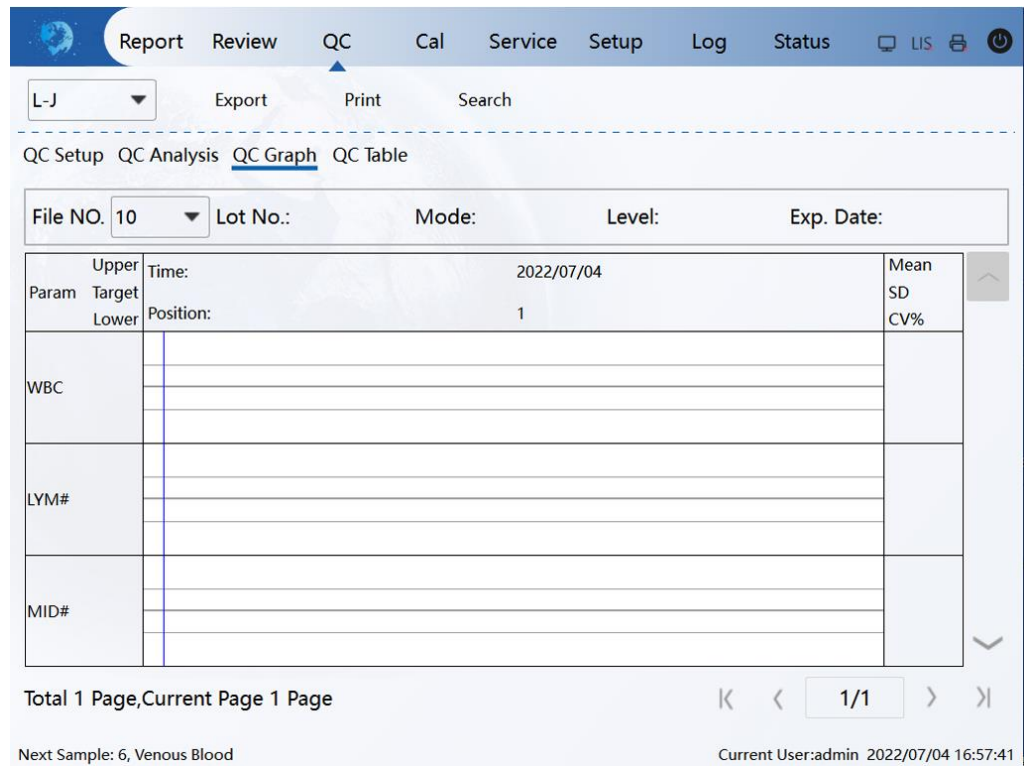

Figure 5-8 QC graph
4. Select the File NO. that you want to review. As shown in Figure 5-8, the interface displays the corresponding QC information and QC graphs.